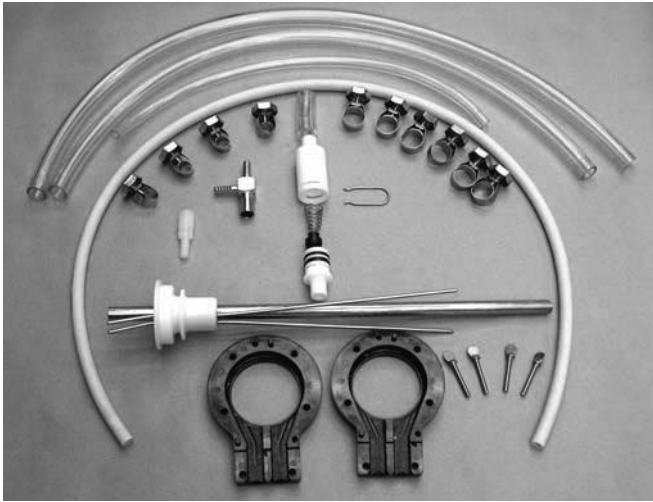

Figure 3-8 Mix Pump Removable Parts
- C. Completely disassemble the hose assembly and the check valve (Fig. 3-8). Place hoses, tee, check valve assembly, and pickup hose adapter in 90° to 110°F (32°C to 43°C) mild detergent water and wash thoroughly. Use soft bristle brushes to clean inside of fittings. Rinse all parts in clean 90° to 110°F (32°C to 43°C) water.